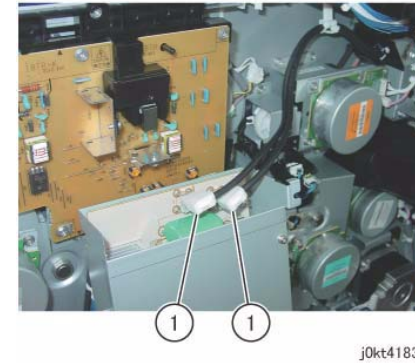

Figure 7 Disconnect the connectors
8. Disconnect the connector (x2) and remove the IH Driver PWB. (Figure 7)